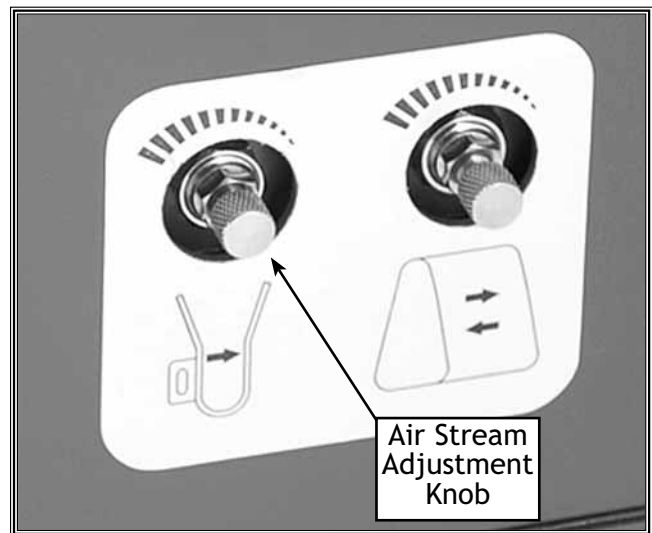

Figure 13. Air Stream adjustment knob.
5. Loosen the jam nut and turn the jet adjustment knob clockwise until the air stream is reduced to a minimum. See **Figure 13**.